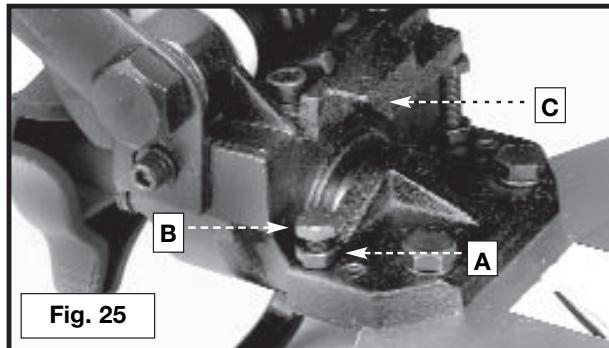

Fig. 25
6. If an adjustment is necessary, loosen the locknut (A) Fig. 25. Turn the screw (B) until the screw (B) contacts the casting (C) when the blade is 45 degrees to the table. Tighten the locknut.